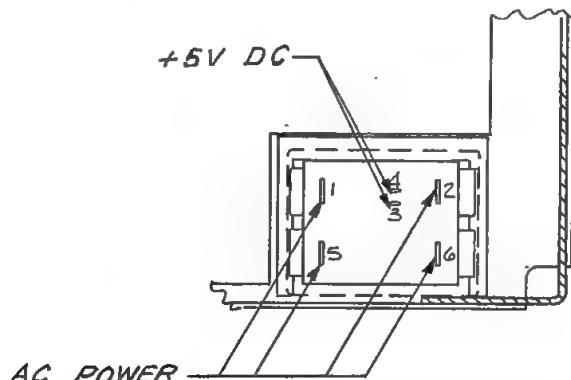

Figure 4-6. AC Switch Rear View
- d. Unplug the connector wires on the back of the switch, see Figure 4-6.